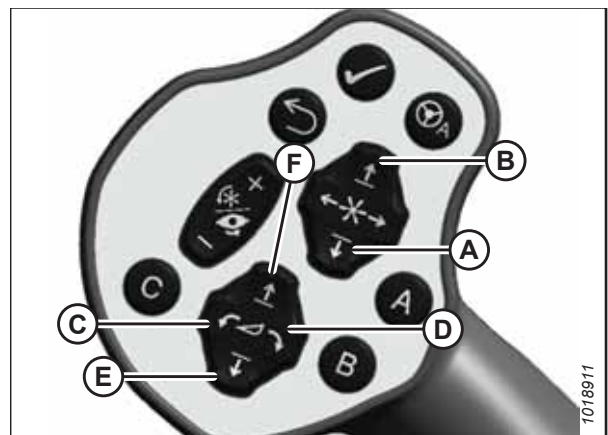

Figure 4.283: GSL
12. Lower center-link (A) onto the header with the REEL DOWN switch on GSL until it locks into position. When this happens, hook release (C) will be in the down position. Refer to Figure 4.283, page 238 for an illustration of the GSL controls.
13. Ensure that the center-link is locked onto the header by pressing the REEL UP switch on the GSL. Refer to Figure 4.283, page 238 for an illustration of the GSL controls.